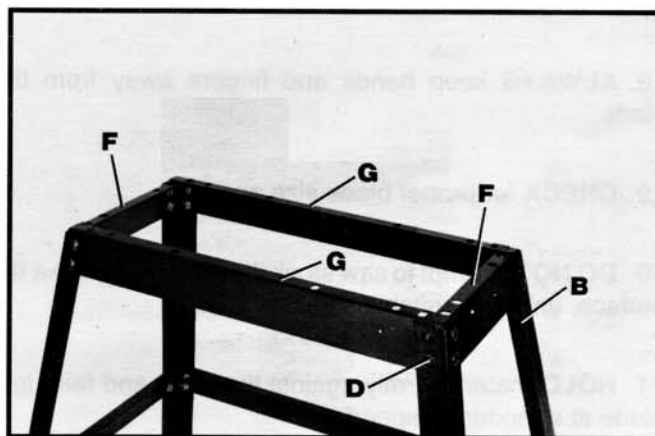

Fig. 3
5. Assemble two 12 inch-long tie bars (F) Fig. 3, with flanges up, to the top of stand legs (B) using eight carriage bolts, flat washers and hex nuts (D). **NOTE:** Do not tighten hardware at this time.
6. Loosely assemble two 24 inch-long tie bars (G) Fig. 3, with flanges up, to stand legs (B) using eight carriage bolts, flat washers and hex nuts (D). **IMPORTANT: FLANGES OF TIE BARS (G) SHOULD REST ON TOP OF TIE BARS (F).**